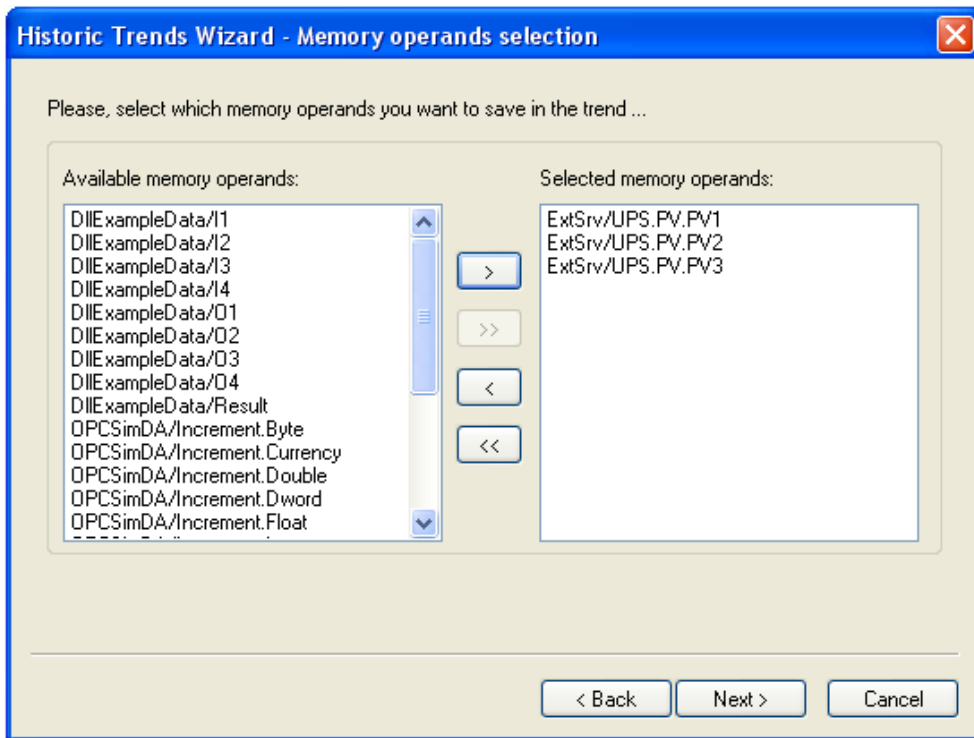

Figure 6: The second wizard page: HTW – Memory operands selection.
3. In the second **Memory operands selection** wizard page, select your memory operands and click on **Next** button (Please see Figure 6).